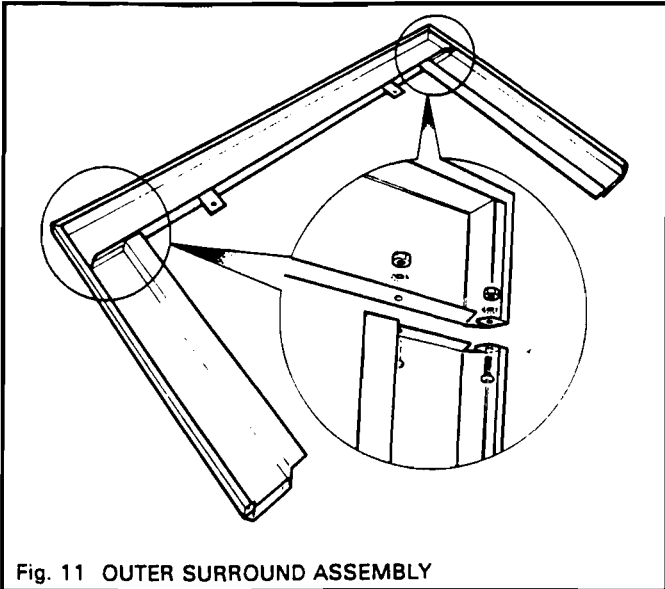

Fig. 11 OUTER SURROUND ASSEMBLY
2.2.4.1. Assemble the two outer surround sides to the top cross piece using the four nuts, screws and washers provided (see fig. 11).